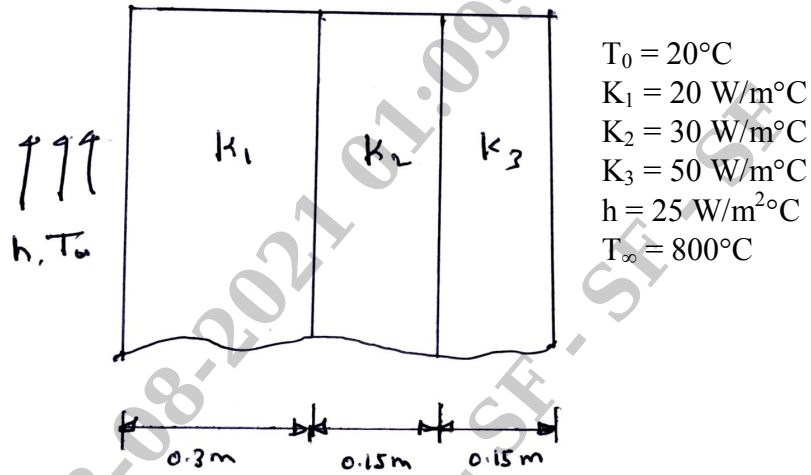

Fig.Q7(b)
b. A composite wall consists of three materials, as shown in Fig.Q7(b). The outer temperature is  $T_0 = 20^\circ\text{C}$ . Convection head transfer takes place on the inner surface of the wall with  $T_\infty = 800^\circ\text{C}$  and  $h = 25 \text{ W/m}^2$ . Determine temperature distribution in the wall.